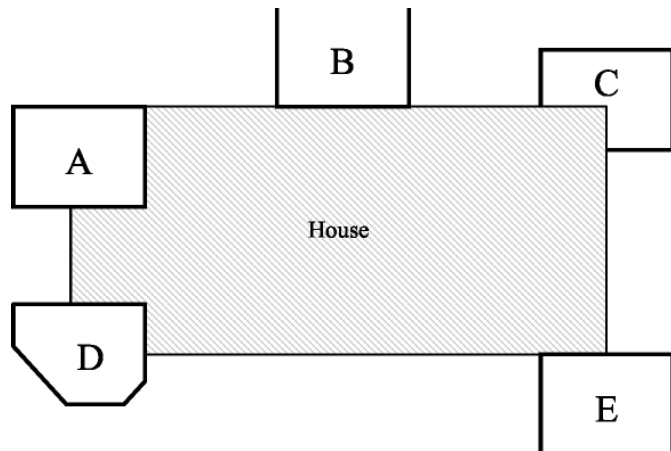

Figure 1: Generic Conservatory Configurations
- a) Built into an internal corner formed by an existing building, (Figure 1-A).
- b) Built out from one exterior wall of an existing building, (Figure 1-B).
- c) Some manufacturer’s technical manuals allow for conservatories to be built around an external corner of an existing building, (Figure 1-C).
As mentioned, any configuration that deviates from these basic designs (A, B & C) will require an Engineer’s written confirmation specific to the site. See Figure 1-D & E.